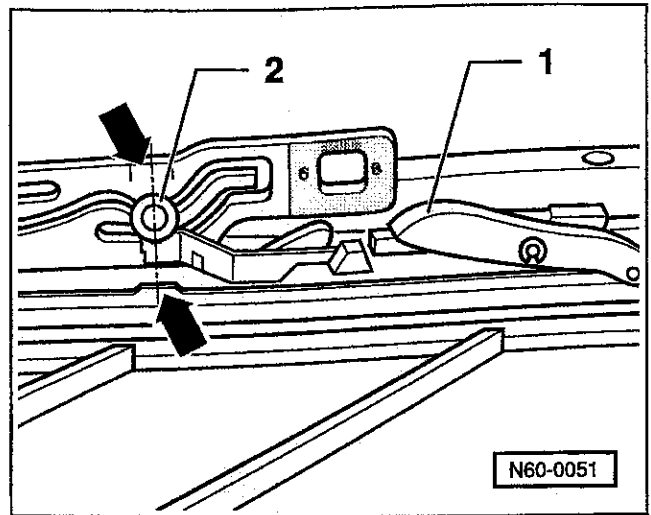

Fig. 9. Locating hooks (1) must be in guide rails and pins (2) must be within marks or notches (arrows) for parallel operation.
3. Check alignment of left and right locating hooks and pins in relation to carrier. See Fig. 9.
7. Align cable drive for parallel operation. See Fig. 9.